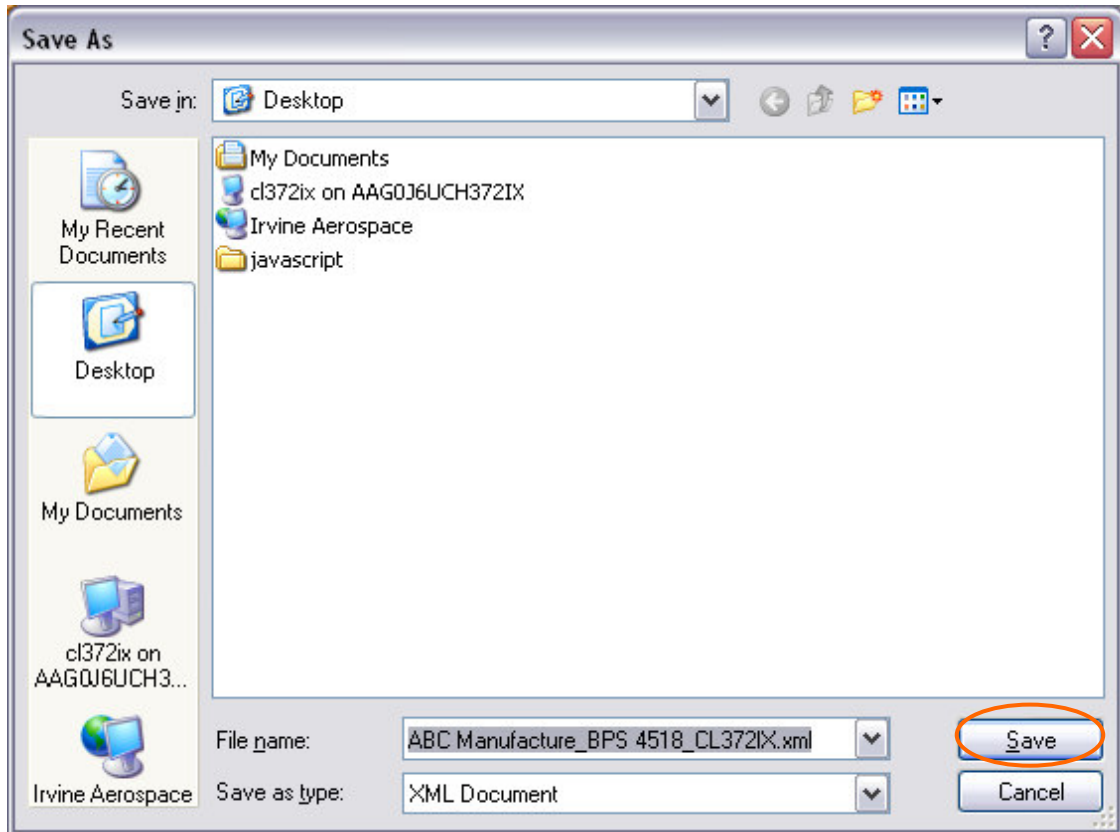

Figure 21 – Save Survey Form As...
- At the "Save As" form (figure 21), navigate to the desired directory where you want to save the survey file and click on the "Save" button. Remember the name and location of the downloaded survey file. You will need to locate it later.